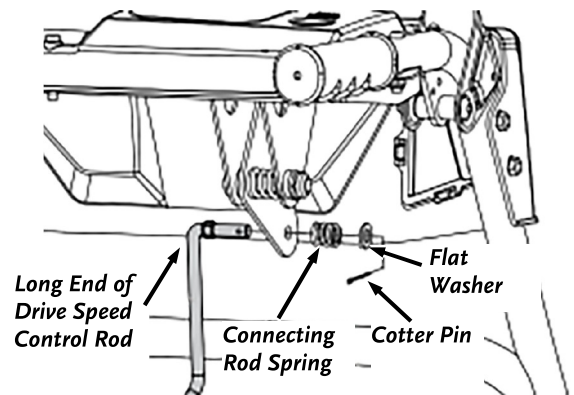

Figure 18
1. Install the long bent end of the Drive Speed Control Rod to the Control Panel and secure it with the connecting Rod Spring, Flat Washer, and Cotter Pin (**Figure 18**).